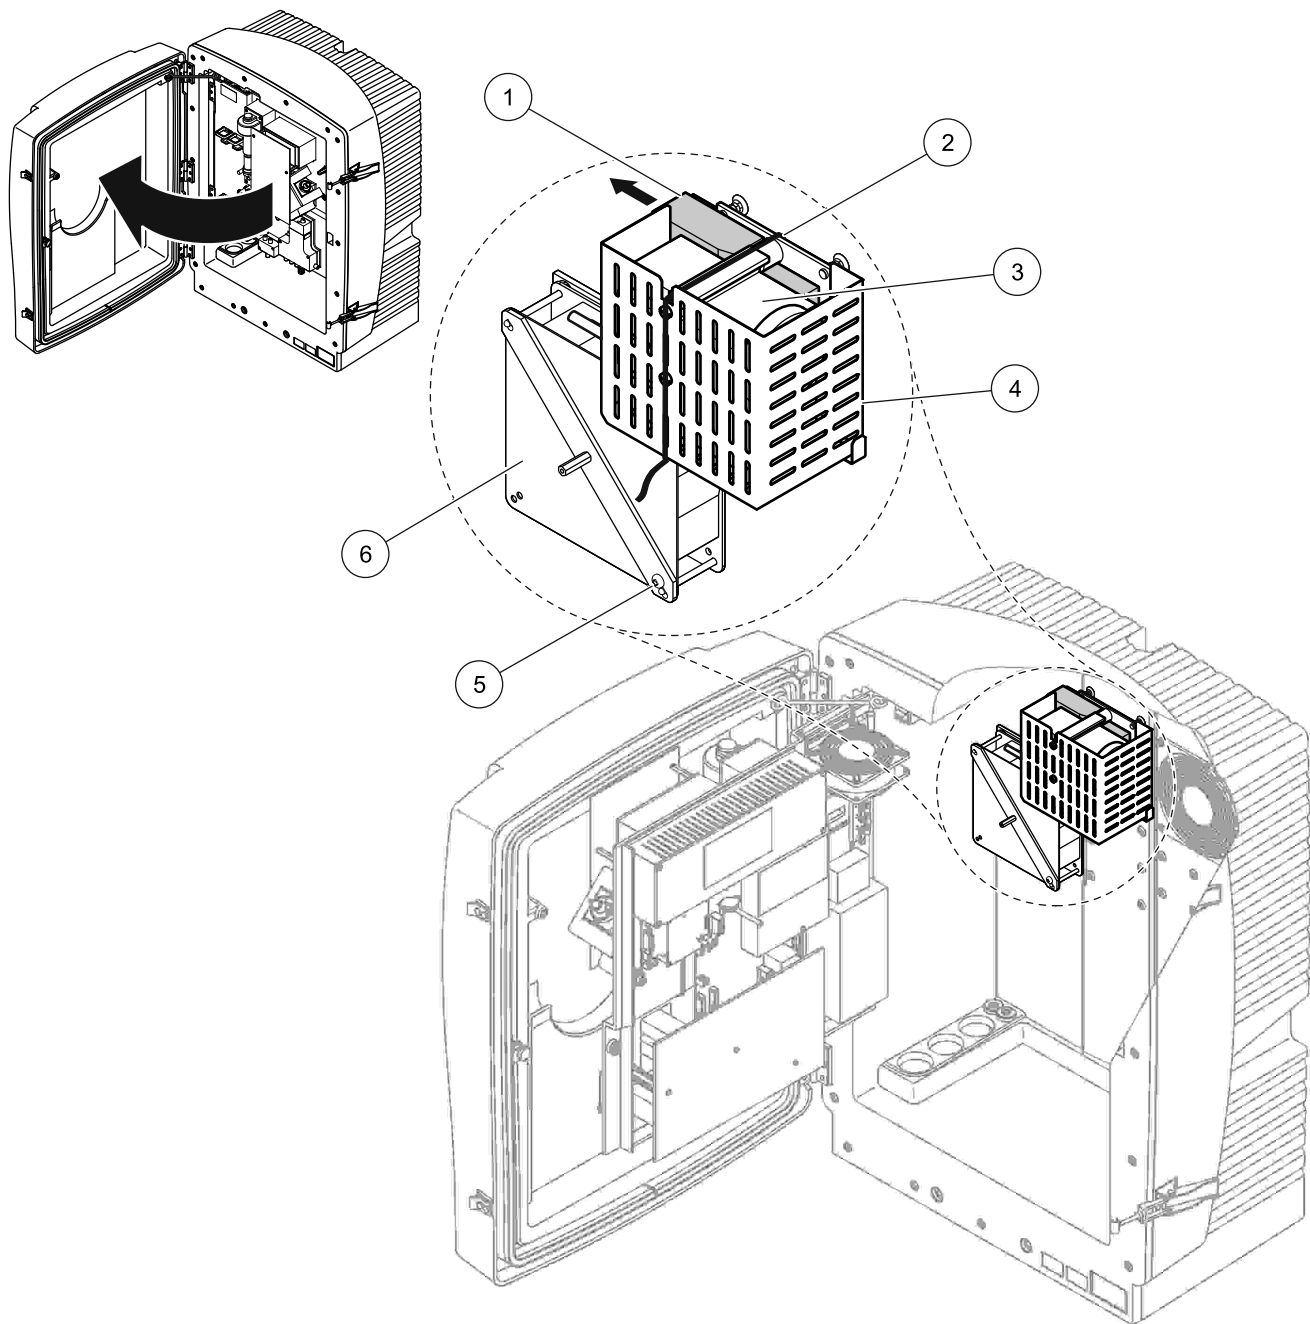

Figure 10 Compressor transport lock removal¹
3. Remove the cable tie and pull out the compressor transport lock to the left (Figure 10).